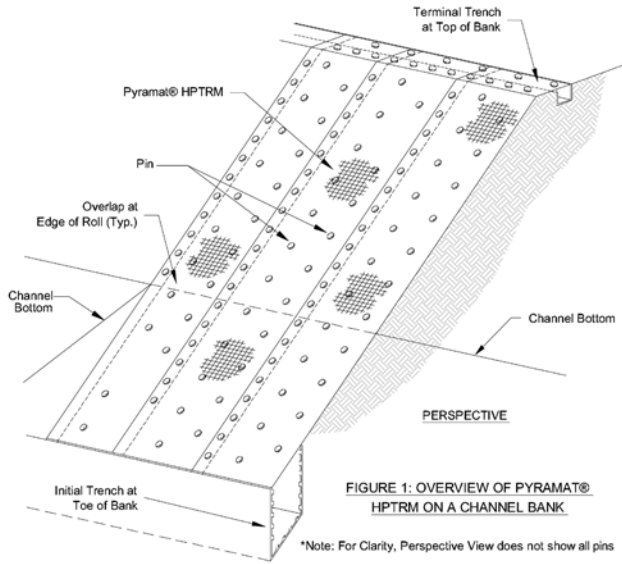

FIGURE 1: OVERVIEW OF PYRAMAT® HPTRM ON A CHANNEL BANK
- Figure 1 shows general installation layout and details for Pyramat® HPTRM on a slope.